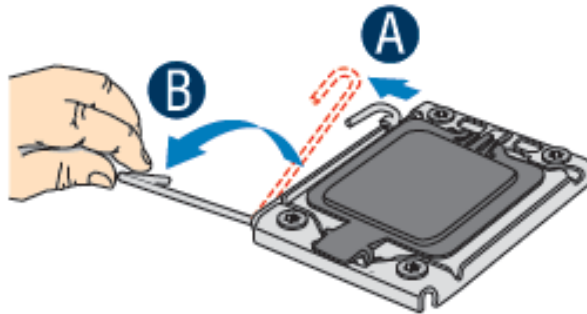

Figure 30. Installing Processor – Open the Socket Lever
2. Open the socket lever, see Figure 30.